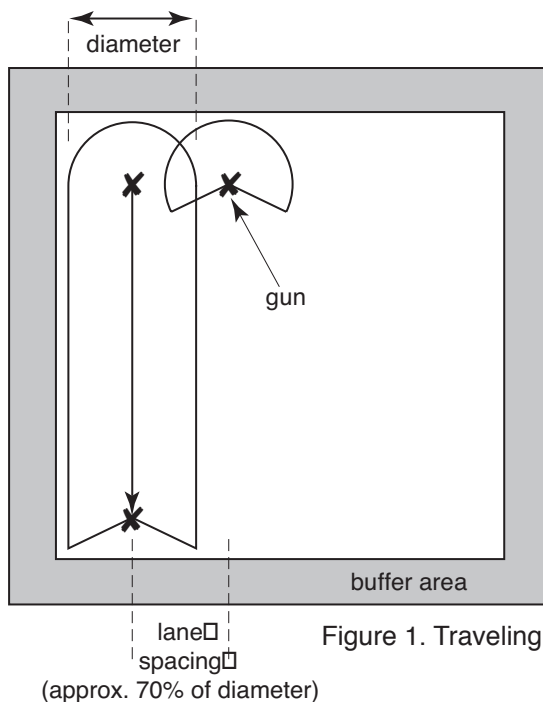

Figure 1. Traveling gun layout
**Travel lane spacing should be 70 percent (0.7) of the nozzle throw diameter for uniform wastewater application. See figure 1 for a typical traveling gun layout.
**The travel lane spacing should be approximately 70 percent of the sprinkler's coverage diameter. The coverage diameter can be determined from the manufacturer's literature or by measurement. Refer to figure 1 for a diagram of a traveling gun layout.